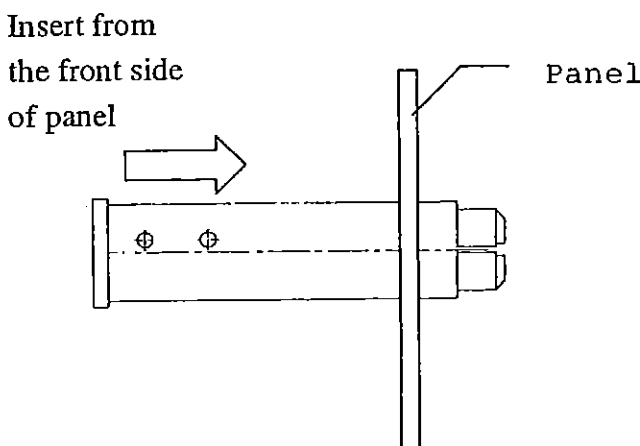

Fig. 11 Installation (insertion)
- ② Insert speed switch unit-D from the front side of the panel cut hole. (Fig. 11)